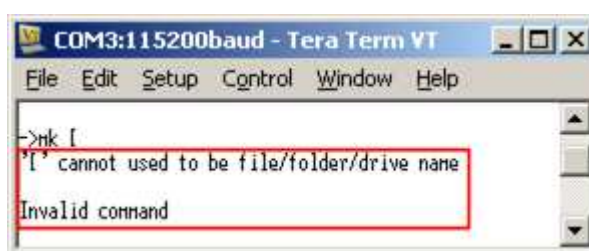

Figure 3-11 Error from invalid character
- (1) Error from invalid character to be directory name, as shown in Figure 3-11